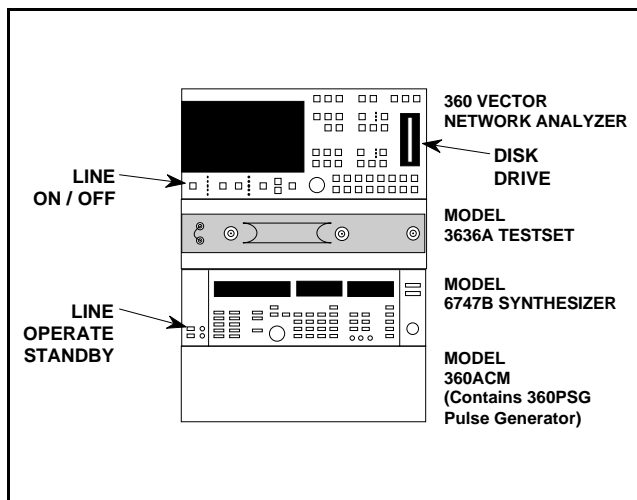

Figure 3-7. 360 VNA System Power Switch Locations
1. Install the 360 VNA system diskette (software version 3.07 required) into the disk drive located on the right-hand side of the network analyzer's control panel (Figure 3-7).
2. On the frequency synthesizer, press the LINE OPERATE-STANDBY switch, located on the left-hand side of the front panel, to OPERATE. Note that the OPERATE indicator lights (Figure 3-7).
3. On the network analyzer, press the LINE ON-OFF switch, located on the left-hand side of the front panel, to ON (Figure 3-7). Note that the LEDs on the front panel light. This indicates that a system self-test is in progress.